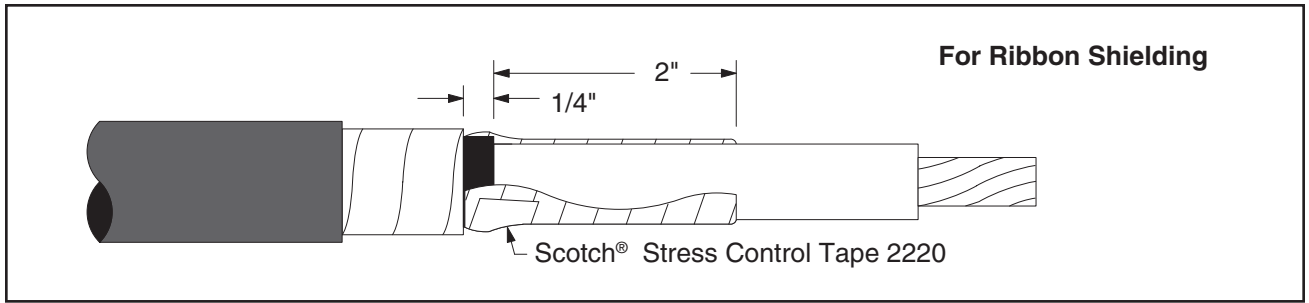

Figure 8a
6.1 Apply two half-lapped layers of Scotch® Stress Control Tape 2220 for 1/4" onto the cable semi-con (1/2" onto UniShield® jacket) and extend two inches onto cable insulation (wrap tape silver side out). *Figures 8a, 8b or 8c, depending on type of cable shielding.*